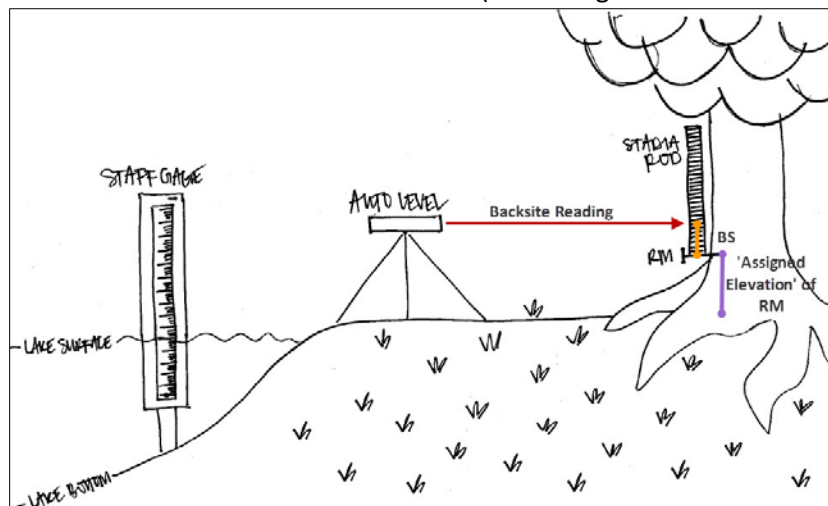

Figure 6. Taking a backsight reading (BS) of a reference mark (RM) with an auto level and stadia rod
1. Establish three different reference marks (RM) along the lakeshore to calibrate the staff gage.
4. Place the stadia rod on the first RM (RM1) and read the height of the rod through the instrument. This reading is called your backsight reading, BS (Figure 6).
- a. The height of the instrument (HI) is calculated by adding the backsight reading to the known elevation of the reference mark and is called ( $HI = \text{'Assigned Elevation' + BS}$ ).